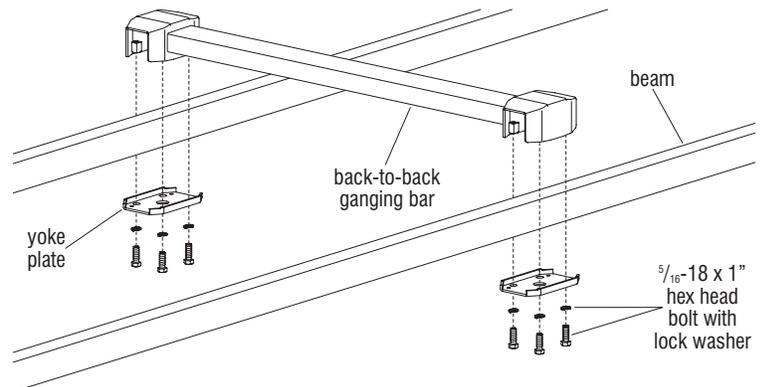

Figure 5
23. Place the back-to-back ganging bar over the beams to be joined as illustrated (Figure 5).
24. Position a yoke plate under the opening at each end of the ganging bar as illustrated. Secure from underneath with four $\frac{5}{16}$ -18 x 1" hex head bolts and lock washers. Torque bolts to 21 ft/lbs in a diagonal pattern (Figure 5).